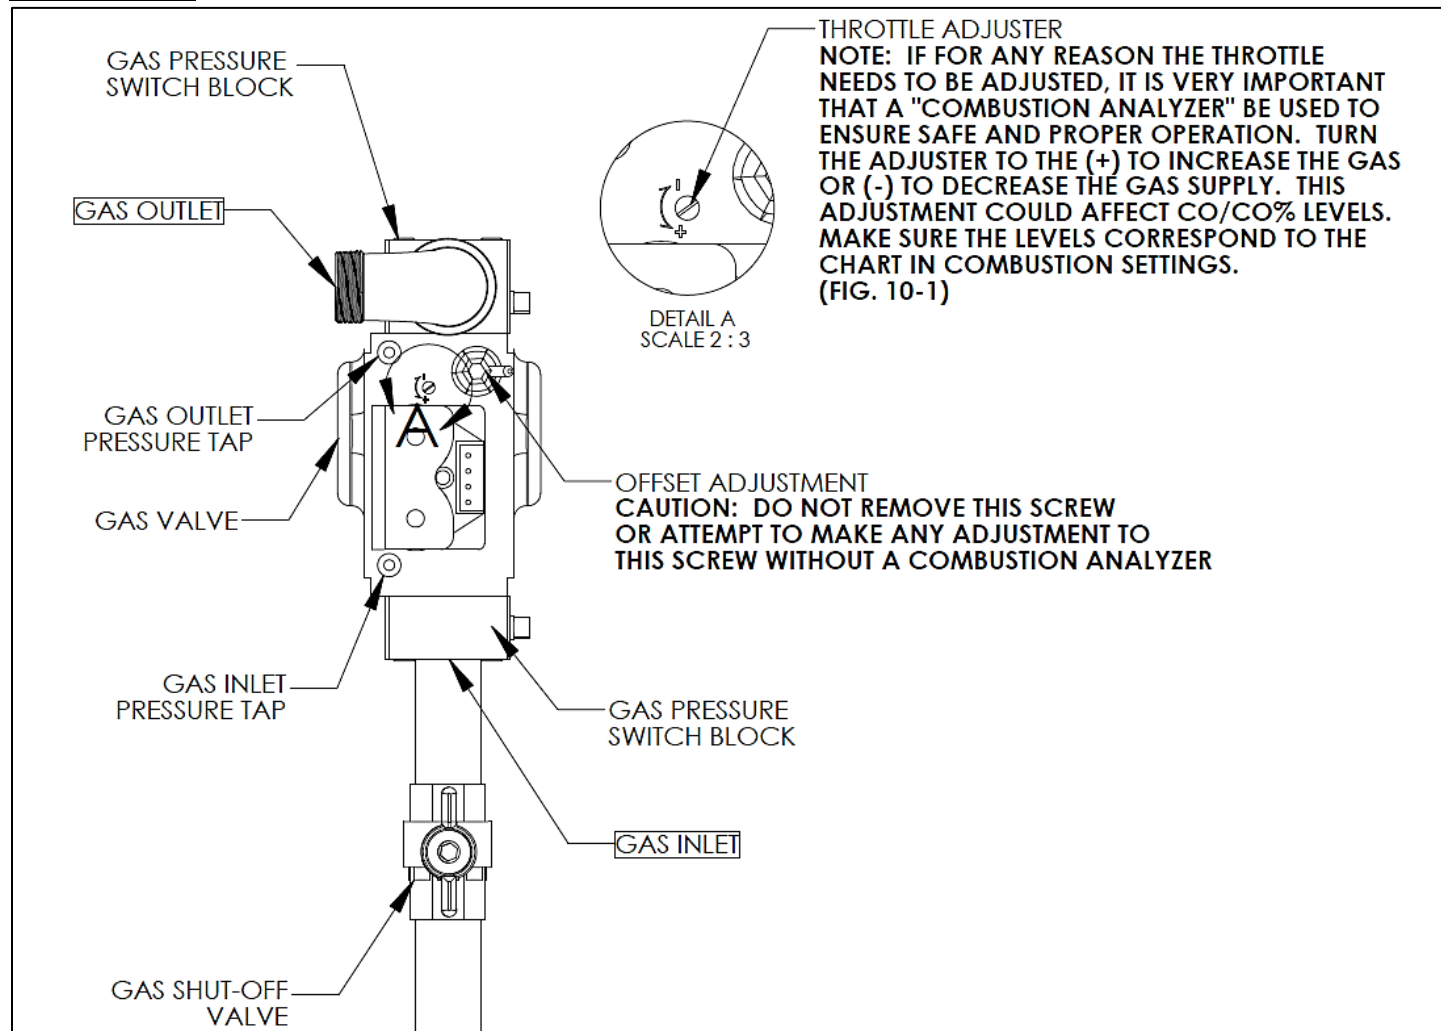

Figure 21 – Mod Con 300 / 500 Gas Valve
2. Loosen the pressure tap with a small screwdriver. Refer to Figures 21 and 22 for locations.